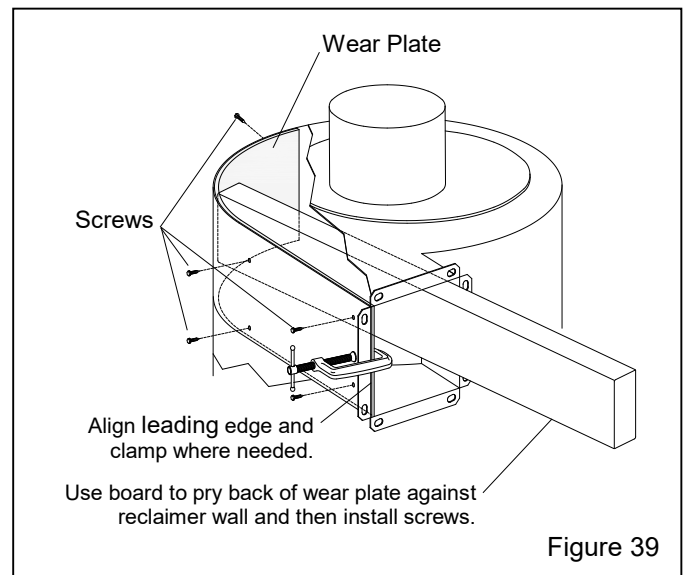

Figure 39
7.10 Replacing Reclaimer Wear Plate – Figure 39